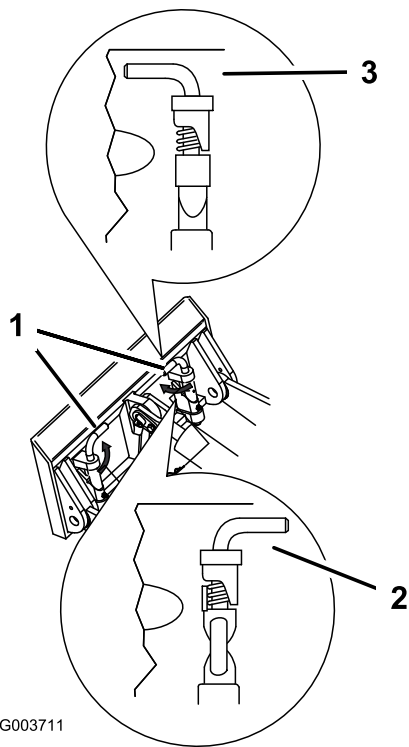

Figure 26
- 7. Engage the quick attach pins, ensuring that they are fully seated in the mount plate (Figure 26).